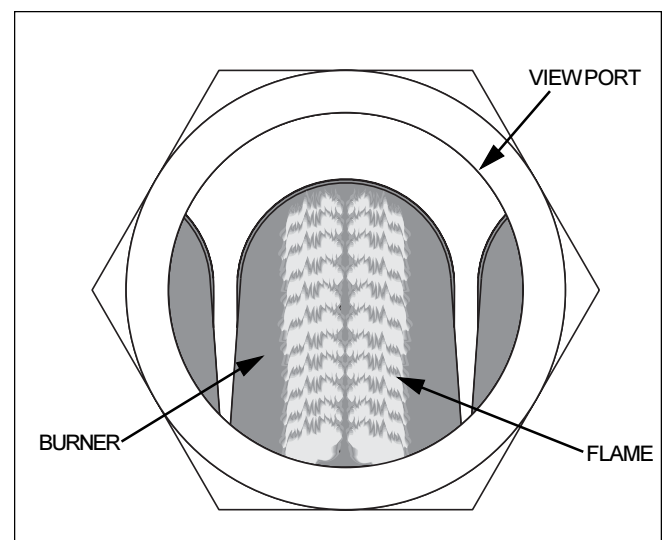
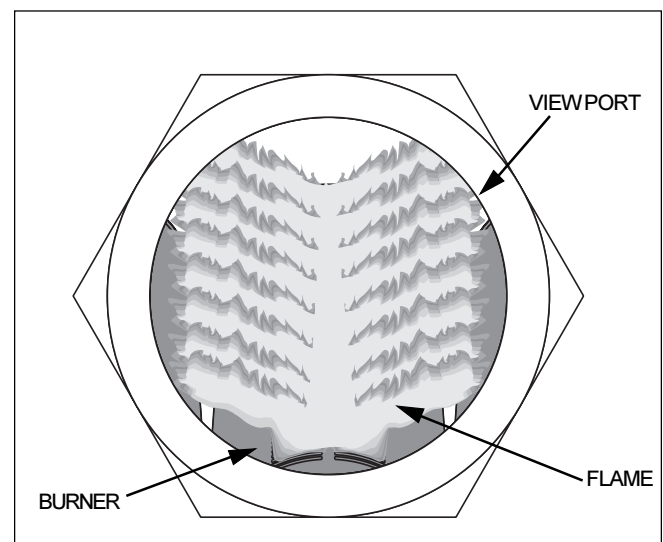

Figure 31. Flame view at low blower speed
Figure 32. Flame view at high speed
12. Make a visual check of the main burner flame. The flame can be seen in a view port on the front panel of the combustion chamber. When the blower is on low speed, the flame should be light blue in color and short (see Figure 31). When the blower is at full (high) speed, the flame will still be light blue in color, but will spread out and up over the burners (see Figure 32).